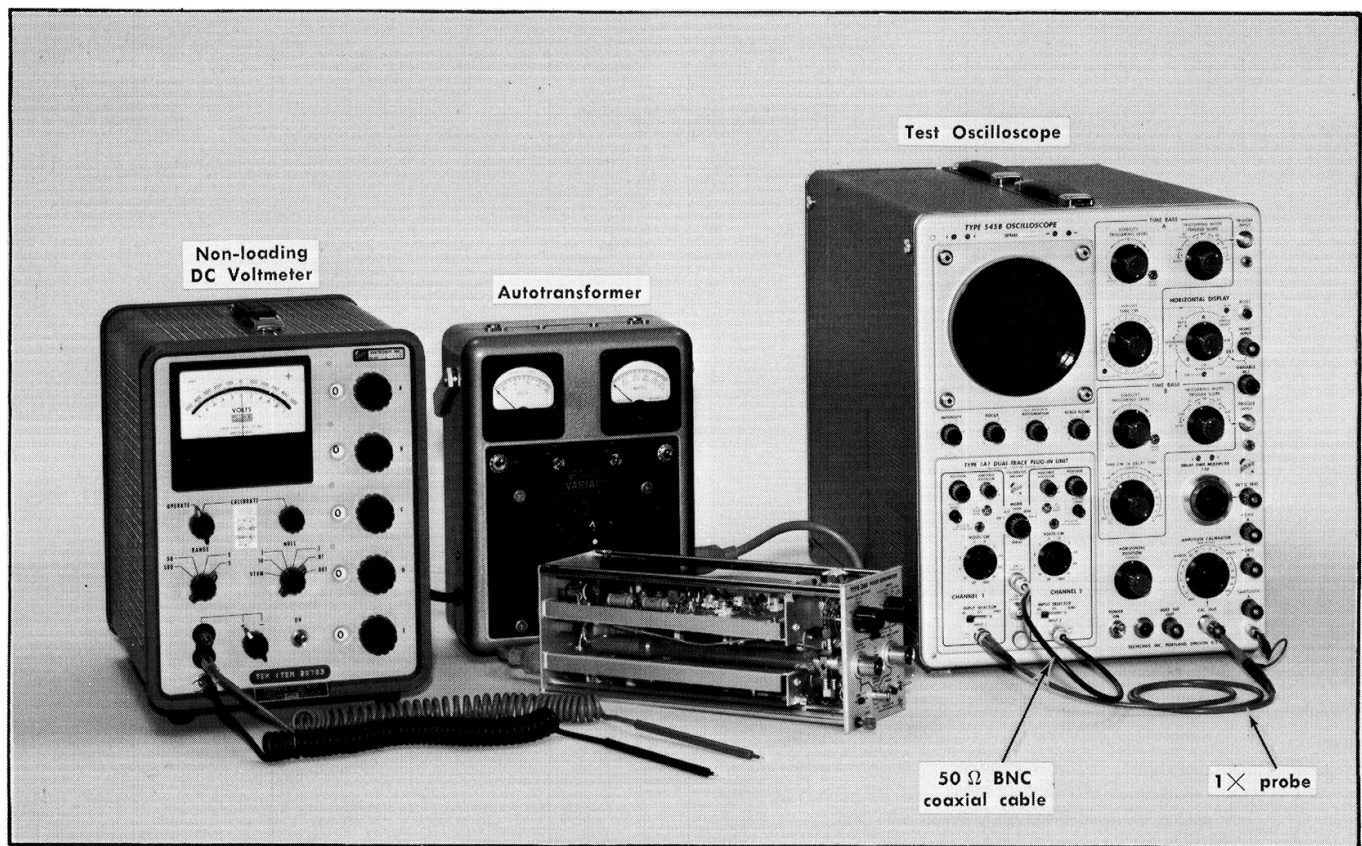
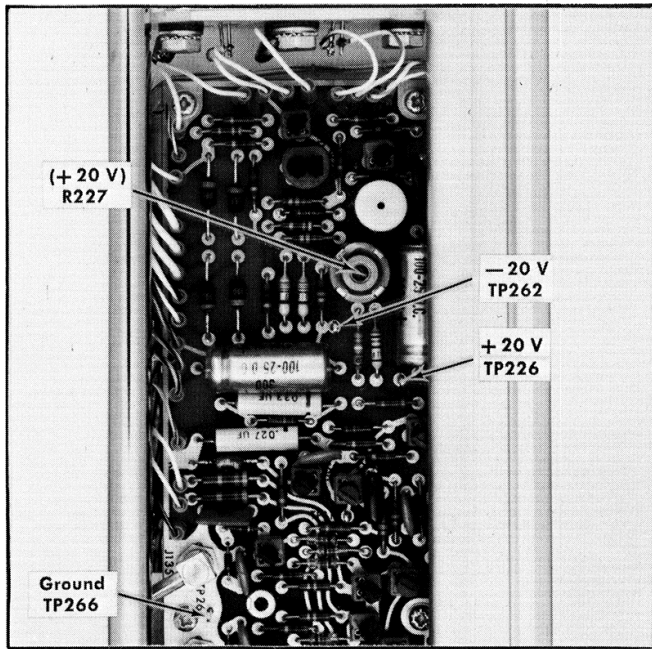

Fig. 6-3. Equipment setup for power supply checks, steps 1 through 3.
Fig. 6-4. Power supply test points, Pulse Generator circuit board.
a. Use the equipment setup shown in Fig. 6-3, and connect the nonloading DC voltmeter between +20 V, TP226, and ground, TP266. The power supply voltage test points and controls are shown in Fig. 6-4.
a. Connect the nonloading DC voltmeter between -20 V, TP262, and ground, TP226, shown in Fig. 6-4.
a. Equipment setup is shown in Fig. 6-3.
b. Connect the test oscilloscope 1X probe tip to TP226, and attach the probe ground clip to TP266. See Fig. 6-4 for their location.